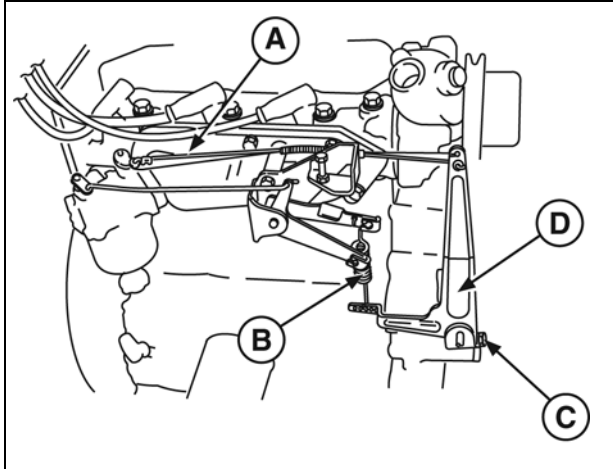

Figure 6
2. Remove governor link spring (**A**, Figure 6) and governor link from carburetor.